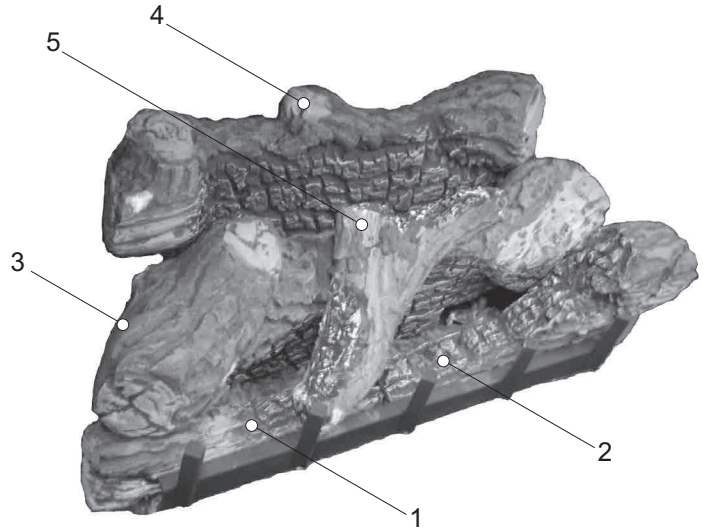
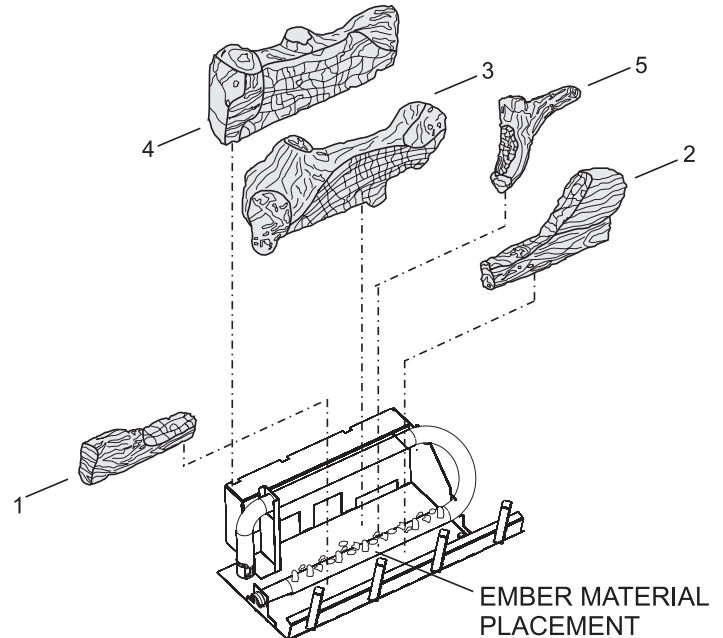

Figure 55
Figure 56
The positioning of the logs is critical to the safe and clean operation of this fireplace. Sooting and other problems may result if the logs are not properly and firmly positioned in the fireplace. Please refer to **Figure 55** and **Figure 56** and corresponding WARNING when completing following log placement instructions.
**Attention:** Do not use Figure 55 or Figure 56 to order logs. Refer to parts lists and parts views on pages 58 to 59 to order logs and/or ember material for your appropriate fireplace model.